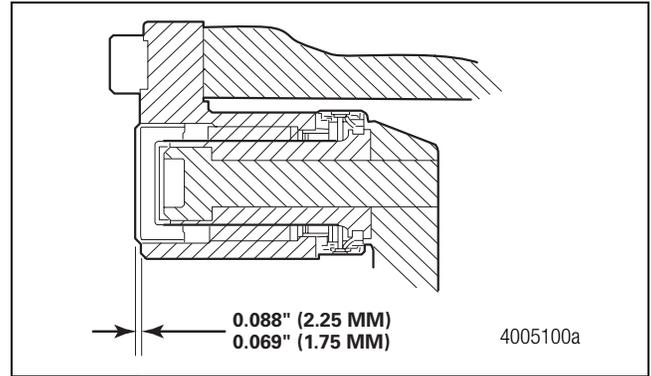
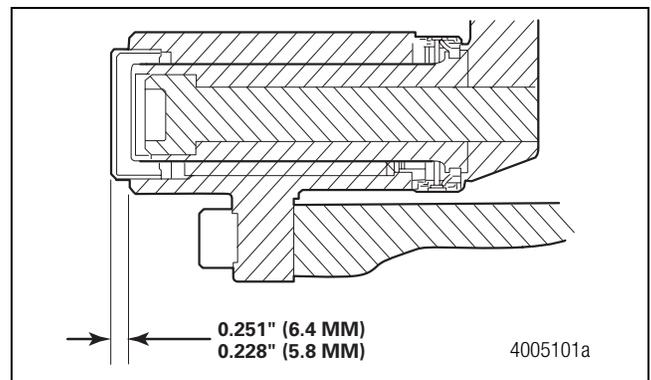

Figure 5.29
Figure 5.30
5. If you are installing a new housing, use a copper-faced mallet to carefully tap one of the new end caps into the caliper housing assembly until it retains itself. Use the correct size tool to tap the end cap into the bore 0.069-0.088-inch (1.75-2.25 mm) for the short slide pin side, Figure 5.29, and 0.228-0.251-inch (5.8-6.4 mm) for the long slide pin side, Figure 5.30. The caps must be installed to the correct depth.